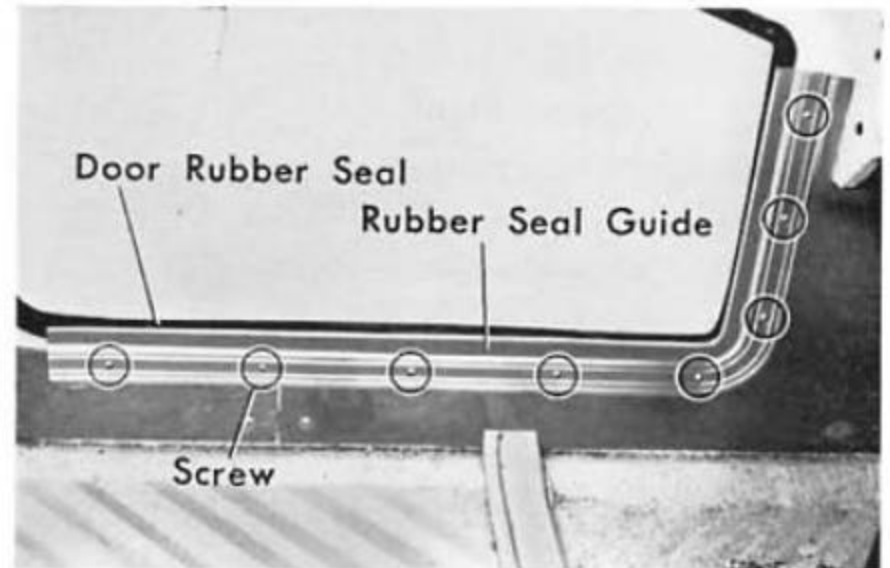

Fig. 17F-18
39. Strip off the door rubber seal (Fig. 17F-19).